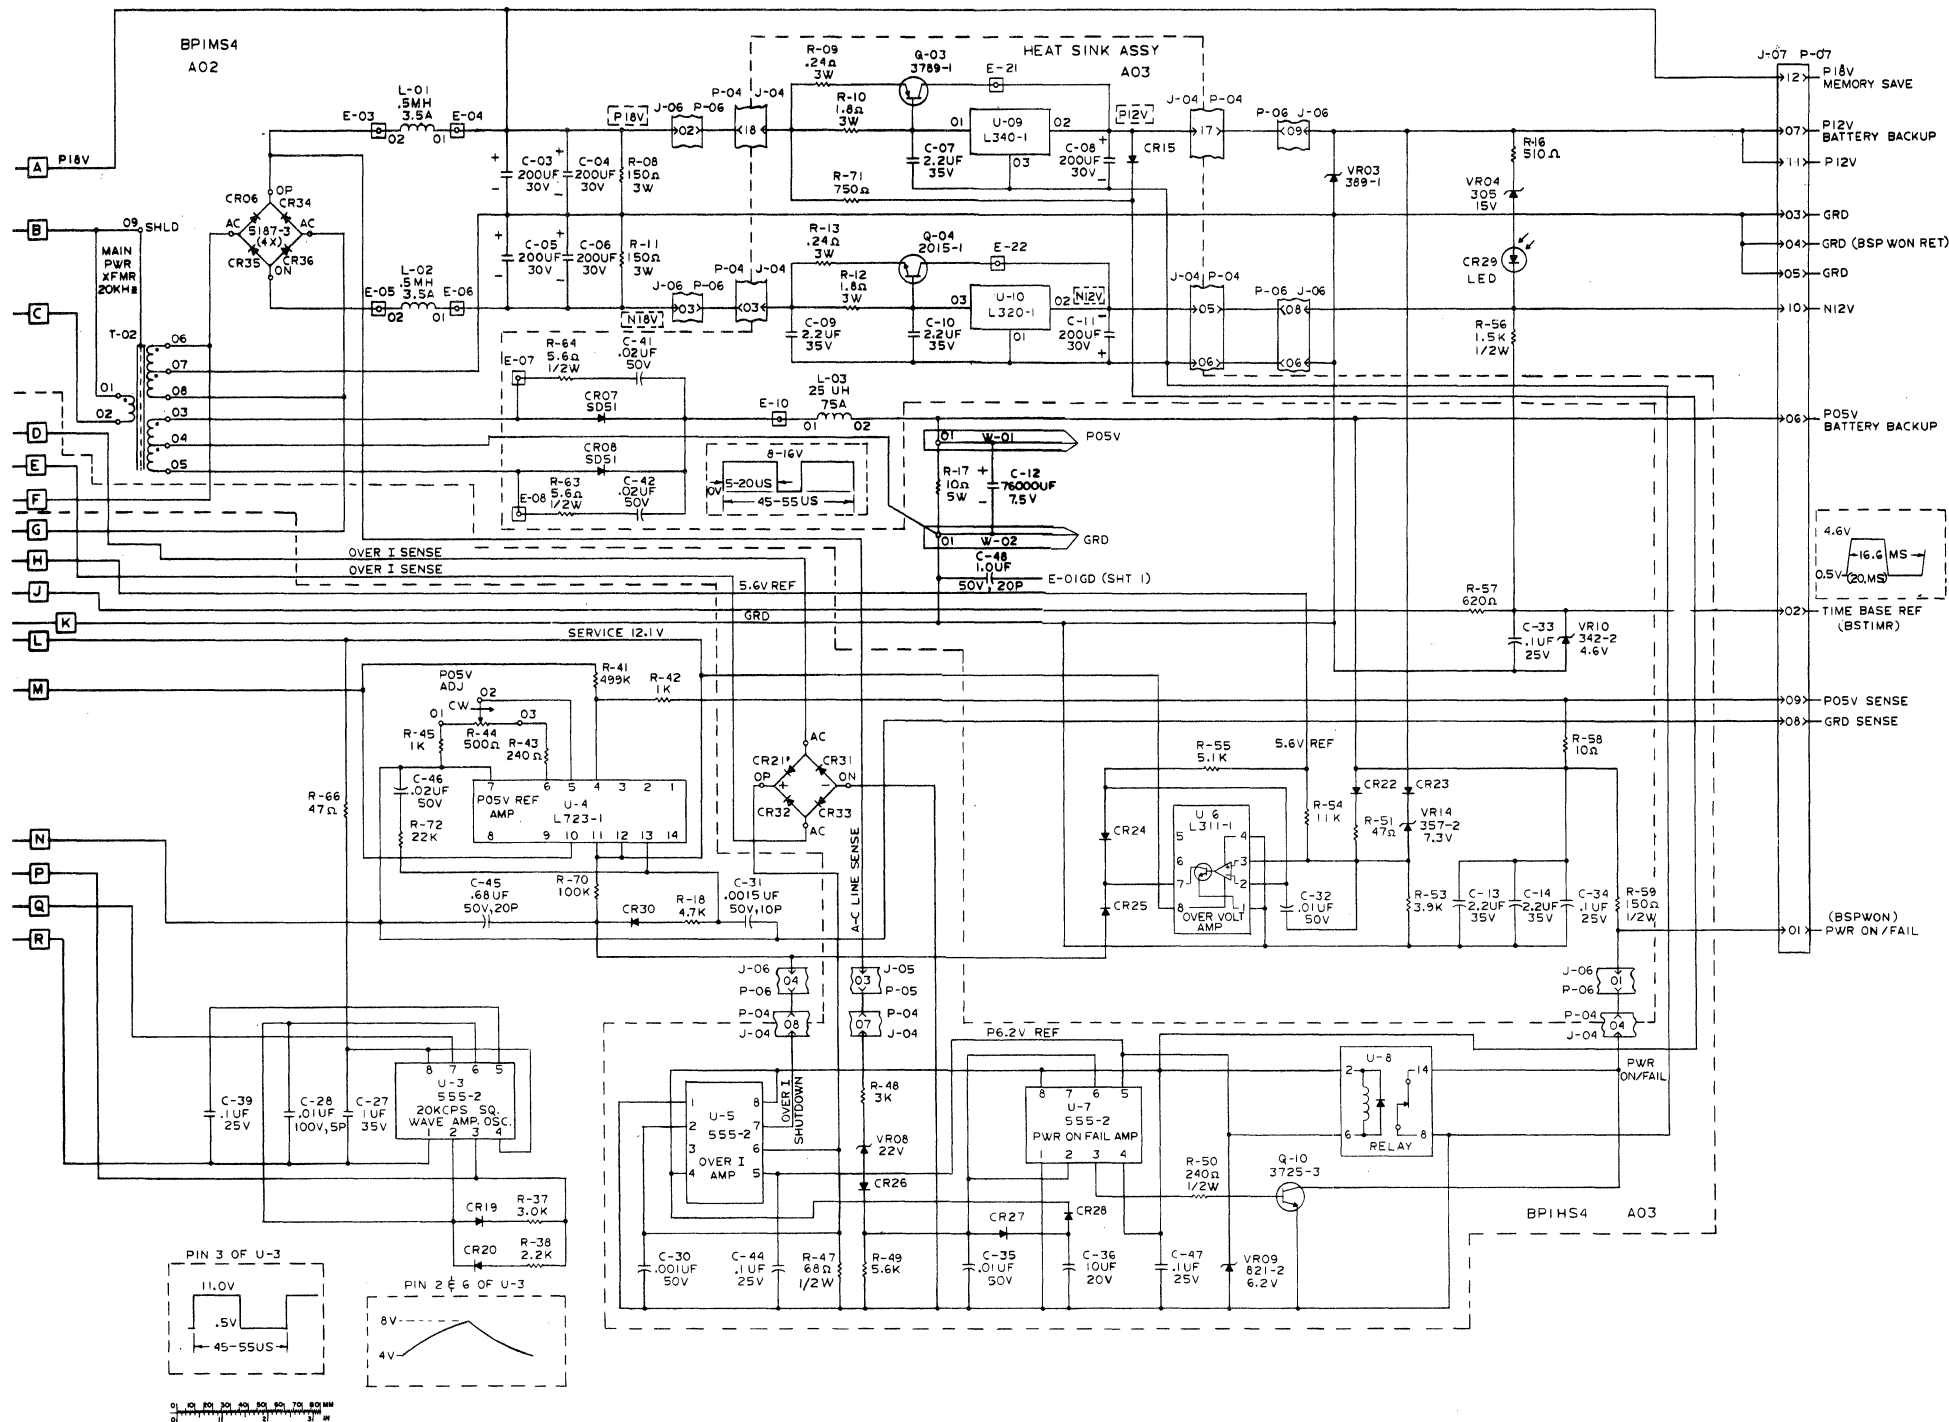

Figure 2-6 M170 Central System
- Figure 2-6 M170 Central System Power Supply Schematic.